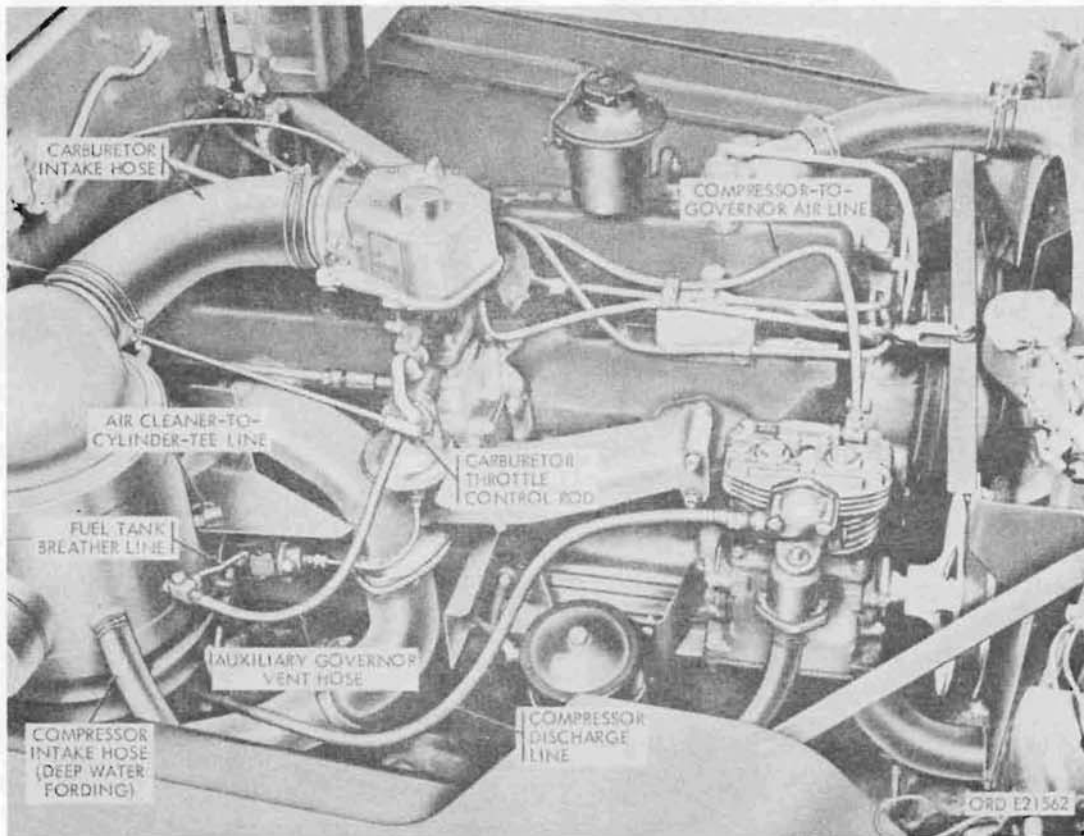

Figure 97. Disconnect points at right side of gasoline engine
e. Disconnect Points at Right Side of Engine (Fig. 97).
- (1) Disconnect points for all models.
- (g) Disconnect the carburetor throttle control rod (fig. 97). Remove the locknut and disconnect the control rod at the throttle lever. Screw the nut back on the bolt to prevent loss.
- (i) Disconnect compressor-to-governor airline. Disconnect the line (fig. 97) at the air compressor. Remove the tube from the clip on stay rod bracket, and pull the tube clear of the engine.
- (2) Trucks M49, M49C, M50, M60, and M108 additional disconnect points (fig. 97).
(1) Disconnect points for all models.
- (a) Disconnect exhaust pipe (fig. 97). Loosen three nuts and screws at flanges between the front and the rear exhaust pipes. Turn the rear exhaust pipe flange and separate the pipes. Discard gasket.